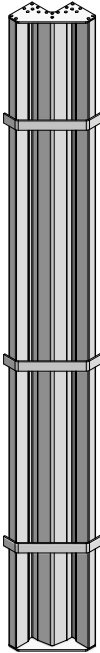
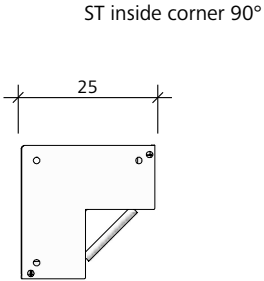

Fig. 39.1
Fig. 39.3
With StarTec XT, a 90° corner can be produced for all wall thicknesses (WT). To do this, three outer-corner sizes (Figures 39.1 and 39.2) and one inner-corner size (Figures 39.3 and 39.4) are available for use in conjunction with standard StarTec XT panels.